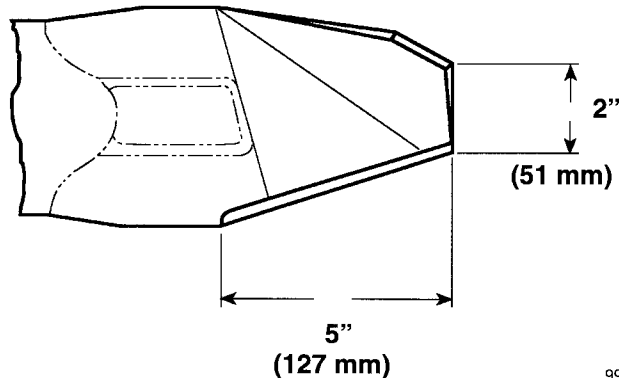

Figure 26
**Note:** Blade should not be ground more than 5 inches (127 mm) from outside ends and no less than 2 inches (51 mm) from trailing edge (Fig. 26).